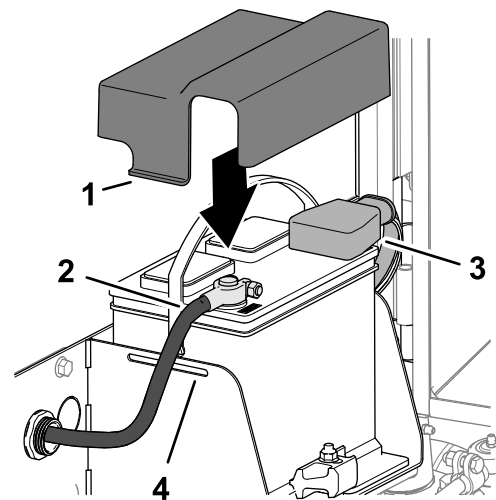

Figure 128
1. Install the positive battery cable (red) to the positive (+) battery post (Figure 128).